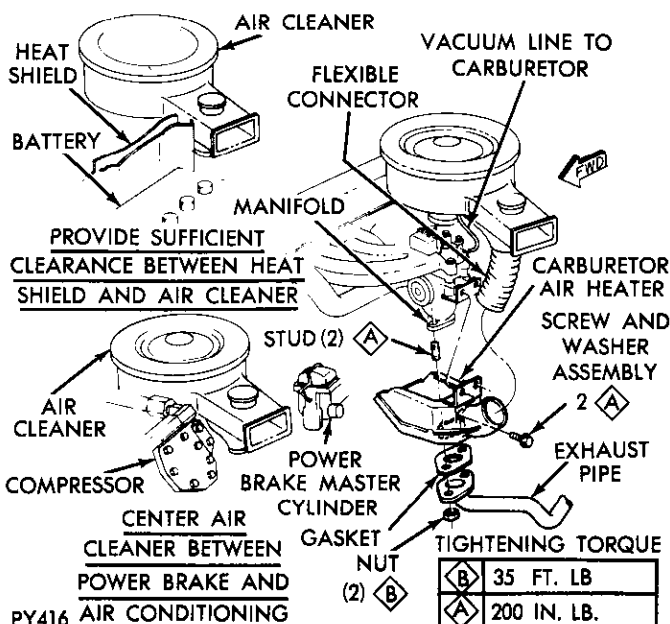

Fig. 6—Carburetor Air Heater, Six Cylinder Engines
buretor and flexible connector between air cleaner and carburetor air heater. (Fig. 6).
(1) Refer to figure 6, install carburetor air heater with two screw and washer assemblies. Tighten to 200 inch-pounds.
(2) Attach exhaust pipe to manifold flange, using a new gasket. Tighten stud nuts to 35 foot-pounds.
(3) Install air cleaner and connect air cleaner to breather cap line.
(4) Install air cleaner to carburetor vacuum line, and flexible connector between air cleaner and carburetor air heater. **Position air cleaner to provide sufficient clearance between heat shield or air conditioning compressor and master brake cylinder if so equipped (Fig. 6).**